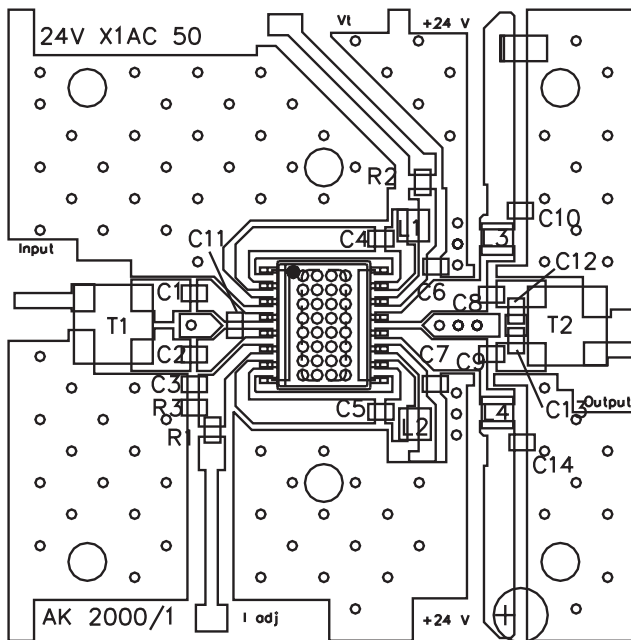

Figure 13: Evaluation Board Layout
(2) Parts measured with 77 channels, +58 dBmV power, 13.5 dB tilt at 870 MHz.
(3) Parts measured with 110 channels, +54 dBmV power, 13.5 dB tilt at 870 MHz.
4. All specifications as measured on Evaluation Board (see Figures 13 & 14).